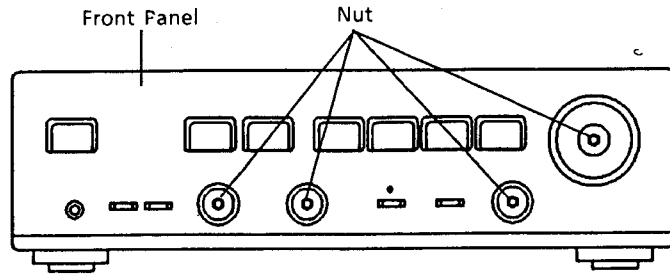

Figure 1
- (1) After removal of Top Cover, remove Volume Control Knob, Balance Volume Knob, Treble and Bass Volume Knobs and then remove Nut for that the Volume Knobs as shown in Figure 1.